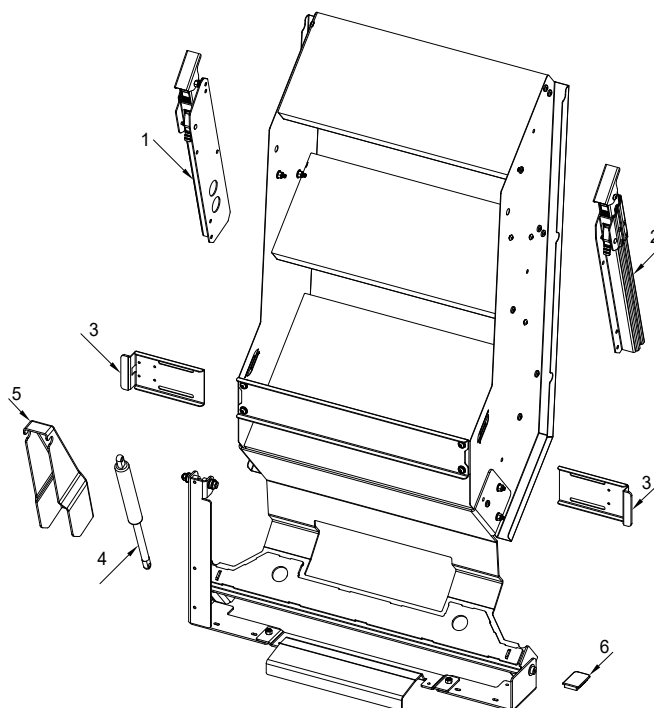
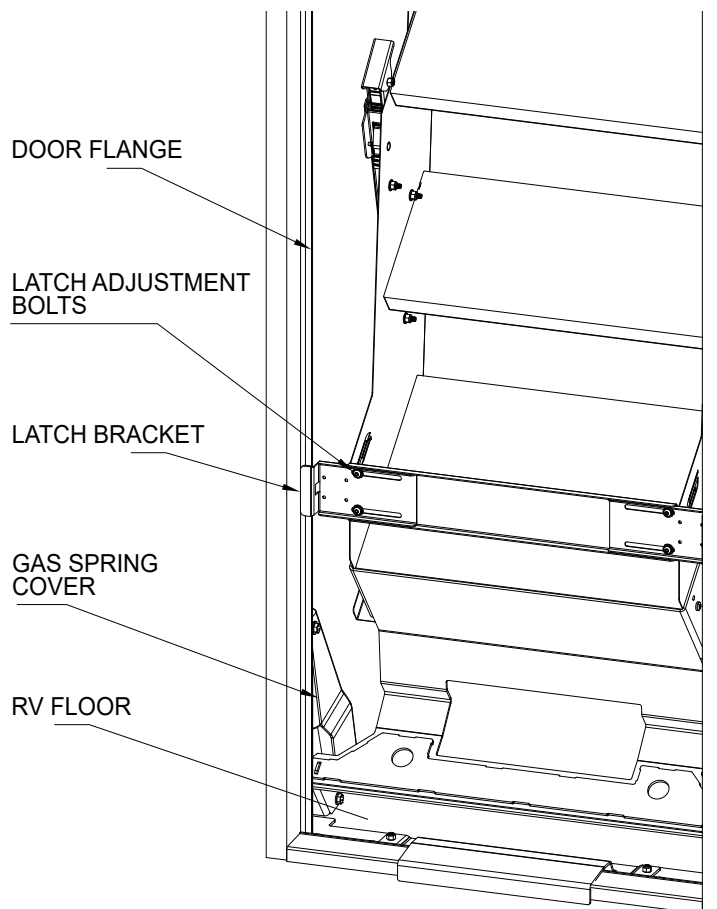

Figure 1
Figure 2
Gas spring may only be removed with steps in the fully retracted state. The best practice is to remove steps from RV completely. This state is shown in **Figure 2** and **Figure 4**. Removal of gas spring at any other position can lead to personal injury.
1. Open the RV entry door fully and set the stair assembly over the RV threshold as shown in **Figure 1**.
4. A total of ten (10) #10x1 1/4 screws must be used to secure the product. Pan head, truss head or flat head screws are permissible to secure brackets to RV, but pan head or truss head screws can be useful in slotted holes to allow small adjustments of the product's position. Ensure screw head diameter of 5/16" or larger is used. Washers may also be used.
5. Pull the mounting brackets tight against the wall by hand or use a clamp during this step to maintain squareness. Install screws through outer slotted holes and into floor as shown in **Figure 2**, (screw position A). Installation of screws into slotted holes first allows for fine adjustment of staircase within the door width. It is recommended to drill a pilot hole using a 1/8" drill bit for all floor screws.
doorway. Once satisfied with position, install screws in the inner slotted holes as shown in **Figure 2**, (screw position B). Do not overtighten screws.
8. Fully open the door(s) once again, lower the stairs, extend the legs (See **Operating Instructions**), and enter the RV to install the next few screws. Remove gas spring cover if not already removed. Install wall bracket screws as shown in **Figure 2**, (screw position C). Push threshold plate tight against the threshold and ensure an even gap exists between the sides of the threshold plate and main hinge plate. Lift stairs to the fully retracted position and secure threshold using screws through the two holes as shown in **Figure 2**, (screw position D). Be sure to maintain the position of the threshold cover during this step. Install the final mounting screw into the right mounting bracket (screw position E).
Adjust brackets by loosening bolts shown in **Figure 1**, sliding brackets in or out as needed and retightening bolts. The ideal adjustment is achieved when maximum surface area of each stop bracket bears on the door flanges and the slide latch actuates properly to prevent the staircase from unintentionally pulling free from the door flange.